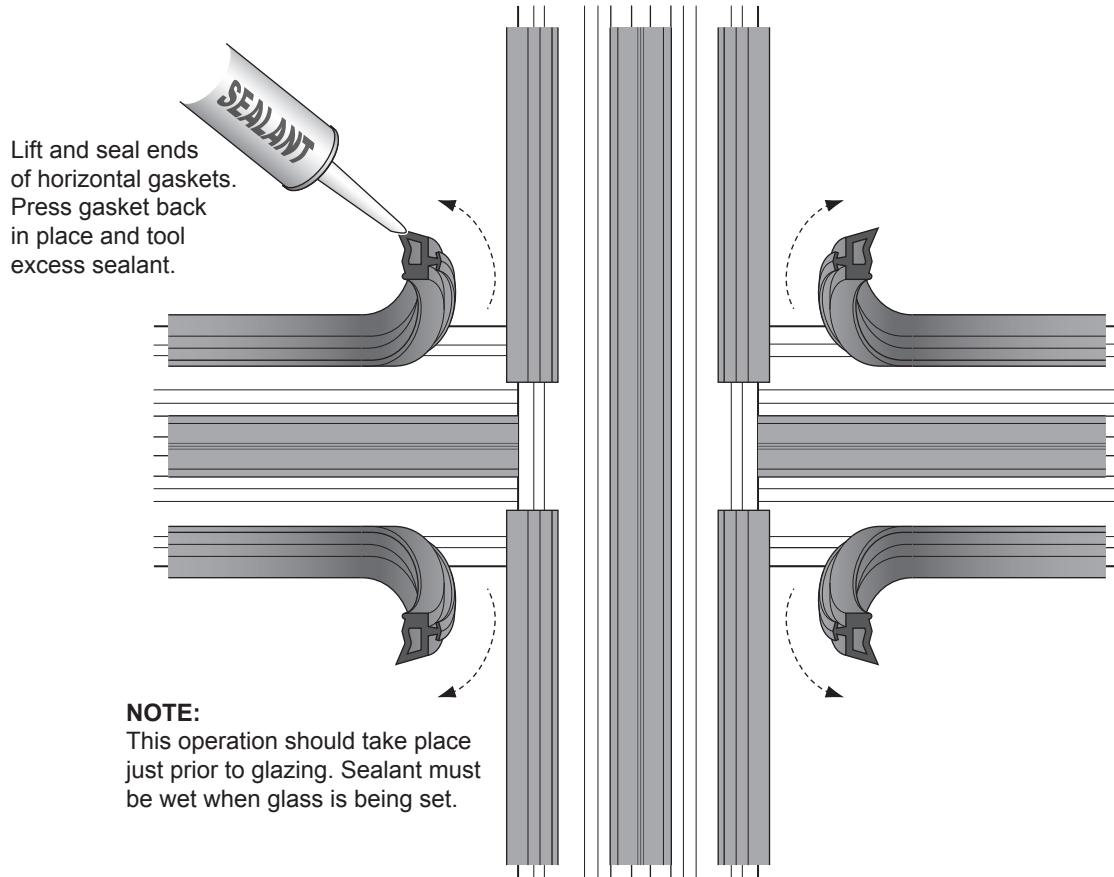

Fig. 42.1
- A. Pull interior horizontal gaskets away from vertical gaskets and seal corners where gaskets abut. Release horizontal gasket back to its original position. See **Fig. 42.1**.